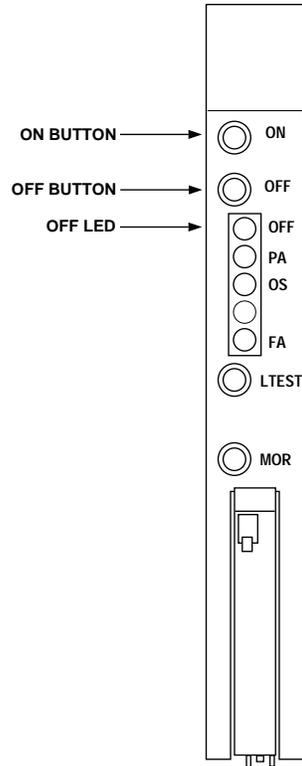

Figure 2. The UN356 Circuit Pack
3. Remove power from the hard disk pair by pressing the **OFF** button on the UN356 circuit pack. (See Figure 2.)